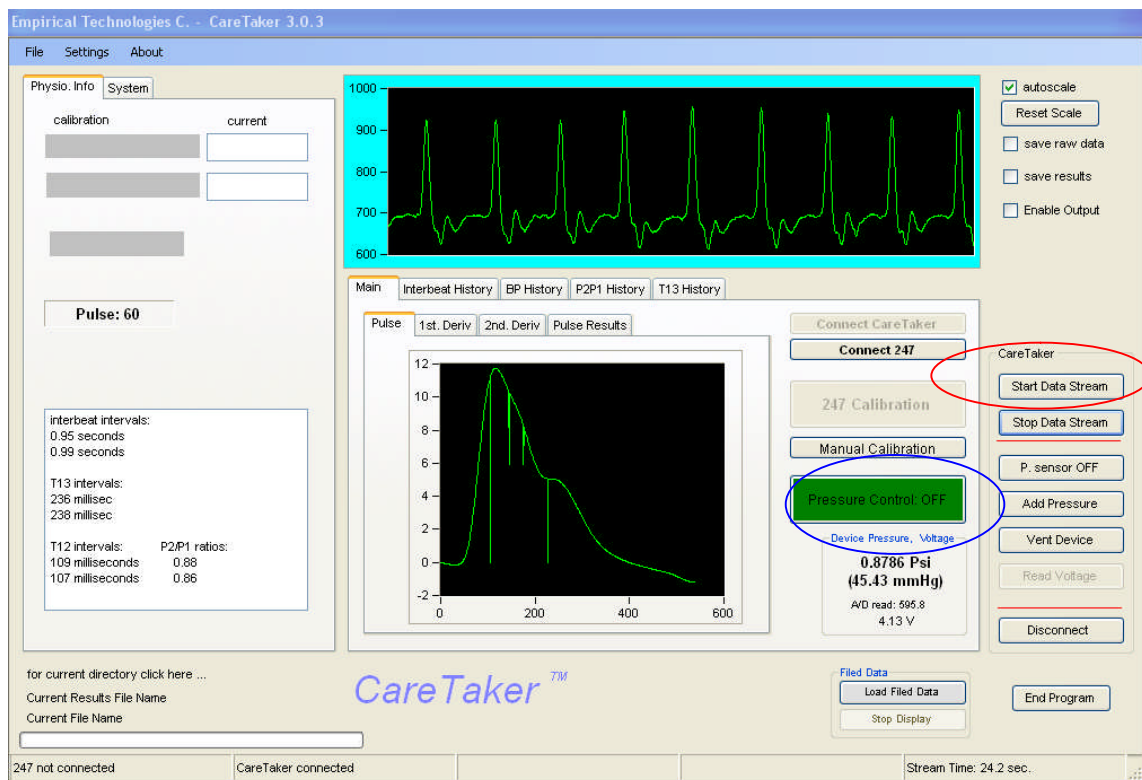

Figure 12: CareTaker GUI w/ data stream
- Click on the Start Data Stream button (red circle, Figure 12)
- Observe the coupling pressure readout (blue circle, Figure 12)